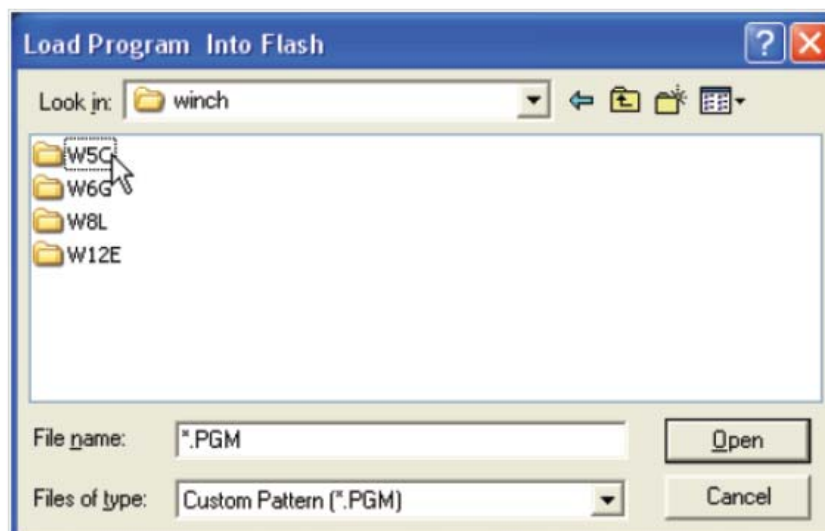

Figure 3-28 Selection Window
10. Click on the “Load Application” button as shown in Figure 3-29 and navigate to the correct program folder on the CD or in C:\WINCH if the software was downloaded from the Allied website. Programs are winch model specific and will be found in a directory named after the winch model in question as shown in Figure 3-28. Note that the only files that will be shown for selection are the ‘.pgm’ files.